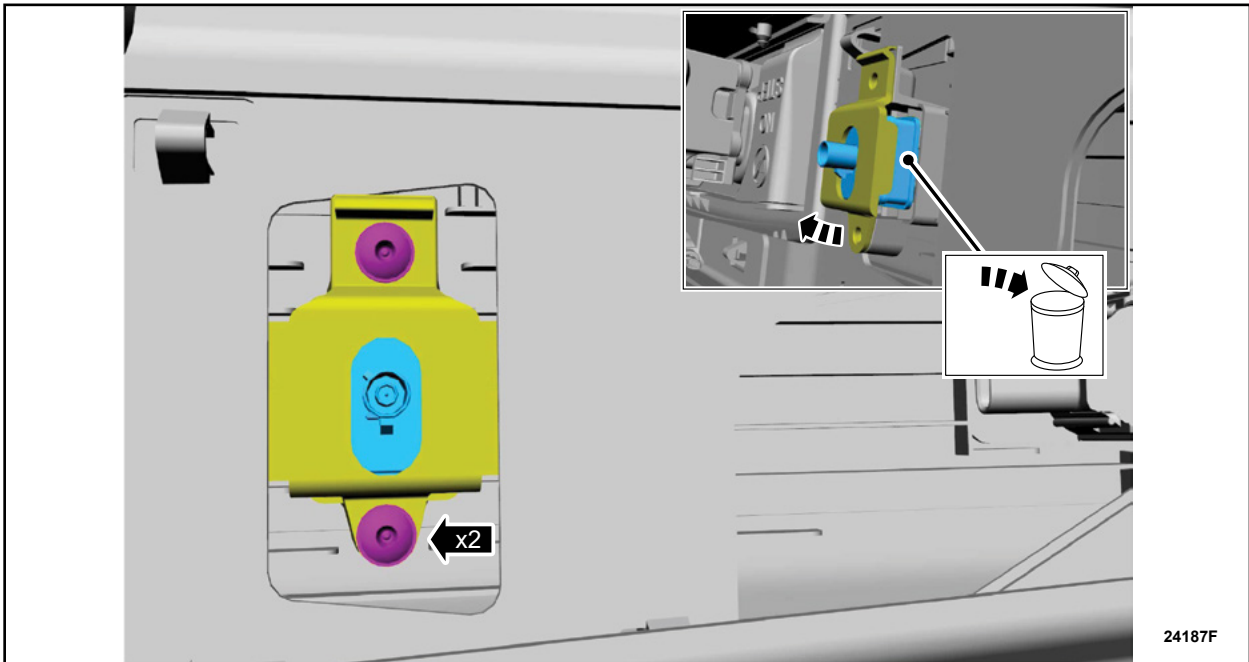

FIGURE 5
5. Remove the tailgate mounted camera. See Figure 5.